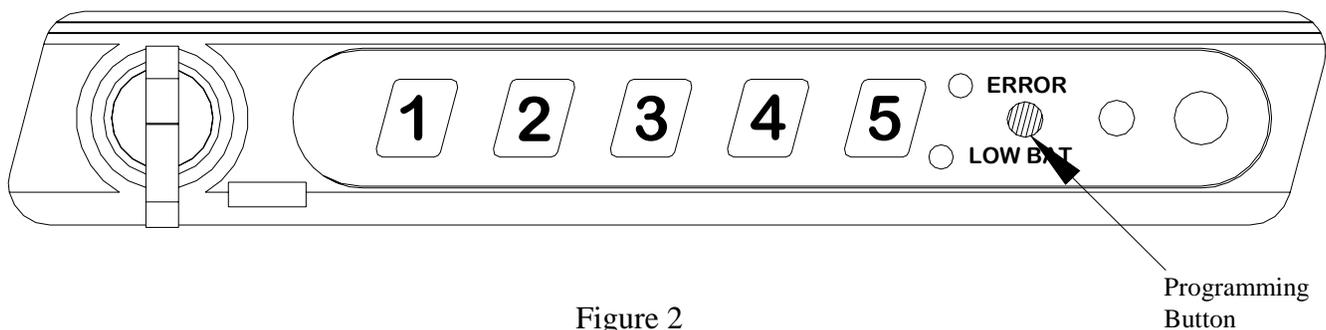

Figure 2
1. The programming button is an unmarked, hidden, button. It is located between the **ERROR** and **LOW BAT** text on the keypad as shown below in Figure 2.
2. Press and hold the programming button (shown in Figure 2 on the previous page) for roughly 2-4 seconds, until the red **ERROR** LED lights up - you are now in programming mode.